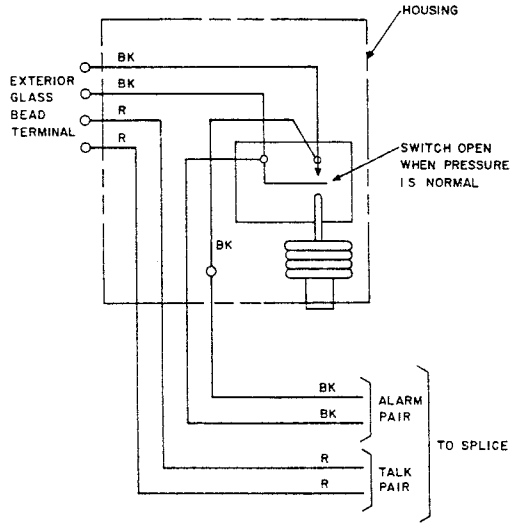

Fig. 4—Wiring Diagram (P Pressure Contactor)
2.06 The wiring diagram for the P pressure contactor is illustrated in Fig. 4.